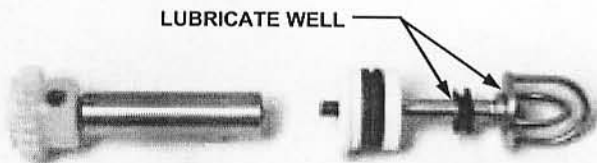

Fig. 29
- f. Apply a generous portion of lubricant to the back side of the spinner blade plate, then slip the shaft seal onto the shaft flat end first, bellows cup end last - see Figs. 29 and 31.